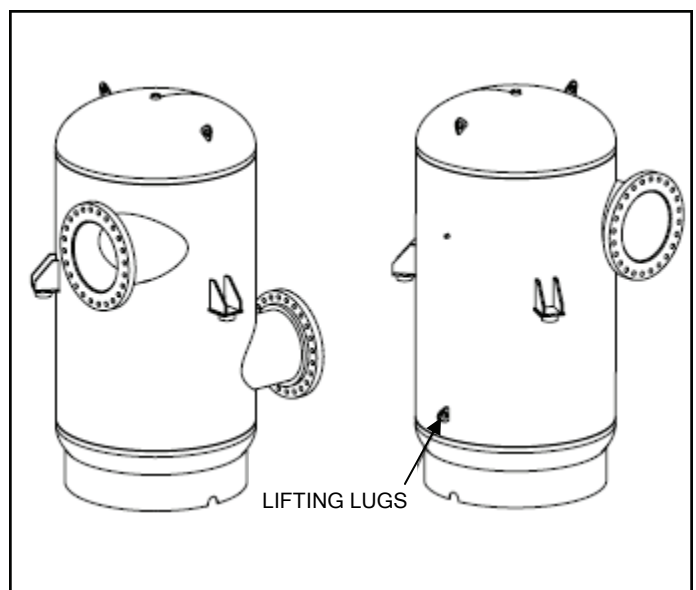

Figure 1
3. **IMPORTANT:** Larger sizes require additional supports. Optional factory welded support brackets are recommended for the 14" and larger sizes (see figure 1).